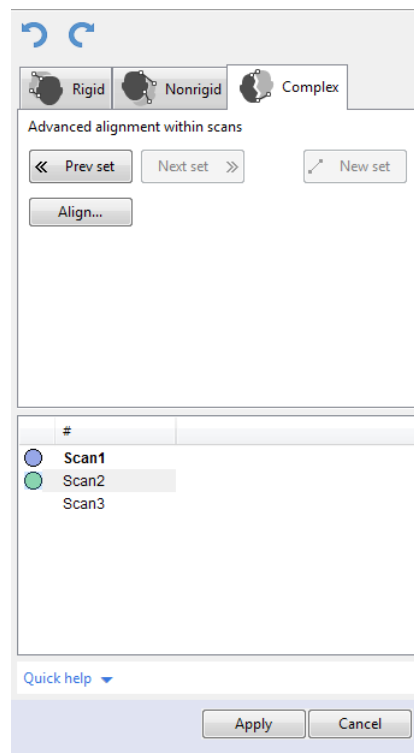

Figure 8.32.: *Align* panel: *Complex* tab.
1. Make sure the *Complex* tab is selected (see Figure 8.32.).